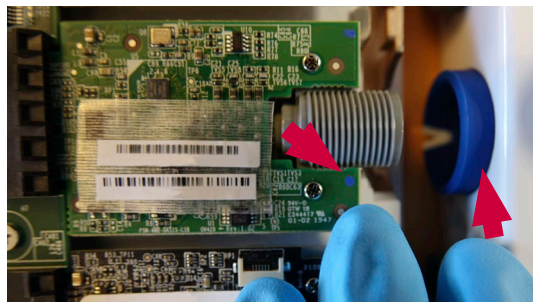

Figure 24 The colour indication on the VDI board must match the colour ring
- f) **Ensure that the colour ring on the back casing is the same colour as the indication on the VDI board (Figure 24)**
When remounting the back casing, ensure that the coloured spots on the VDI boards (Figure 24) are matching the colours of the colour rings at which they are placed.